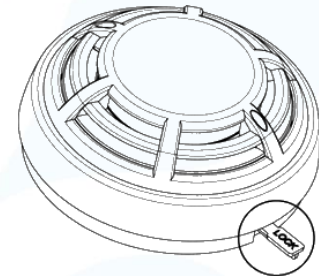

Fig.5
- If the detector is locked to the base to unlock, insert the key to stop the specified place (Figure 5) and rotate the detector in the direction counterclockwise